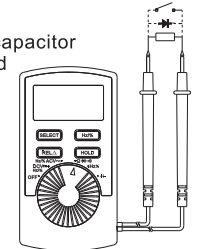

Figure 4
3. Measuring Resistance(See Figure 4)